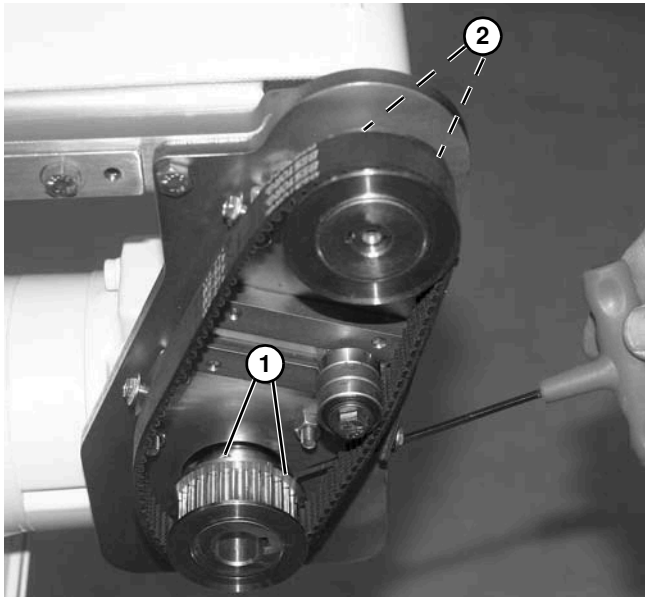
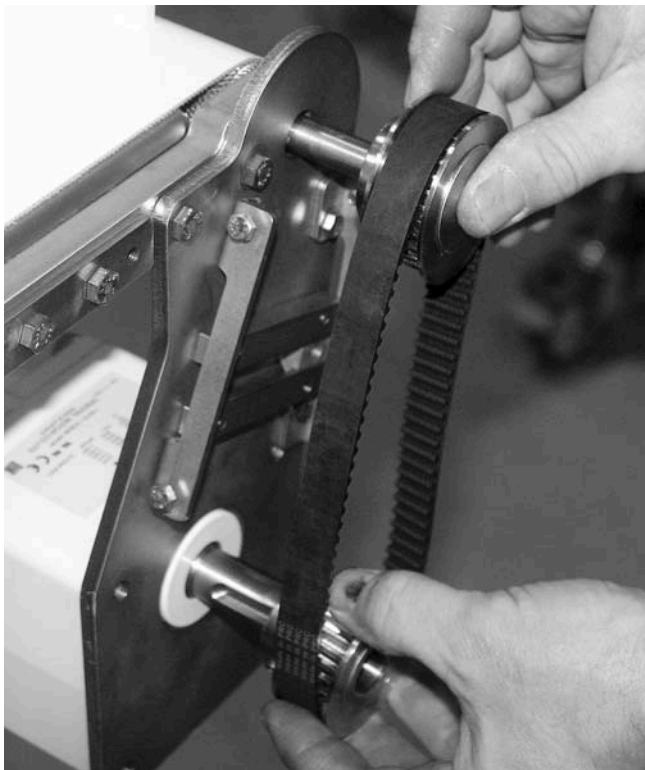

Figure 40
Figure 41
If timing belt does not slide over pulley flange, loosen two drive pulley set screws (**Figure 40, item 1**) and driven pulley set screws (**Figure 40, item 2**), and remove both pulleys with belt (**Figure 41**). Make sure to retain sprocket keys.